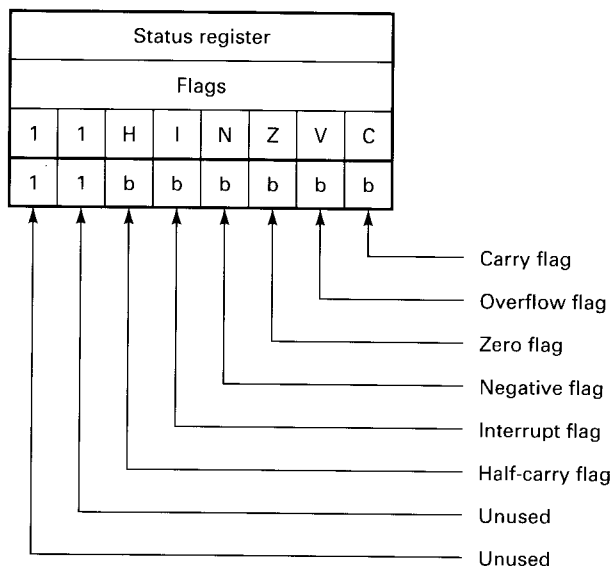

Fig. 15-26 6800/6808 status register. (b's represent bits.)
The 6800/6808 condition code register (called a *status register* in other microprocessors), which is shown in Fig. 15-26, is composed of 6 flags or bits in an 8-bit register. The 2 most significant bits are not used and are always set (1).